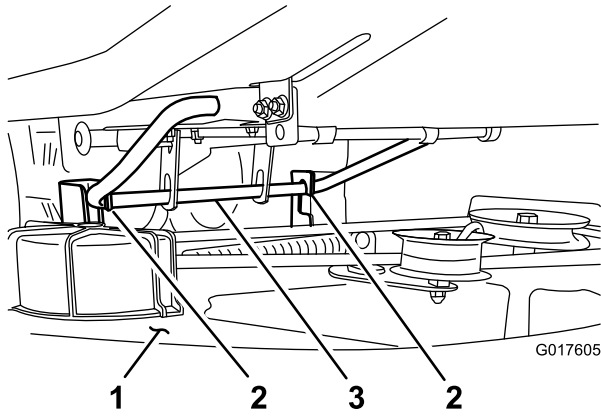

Figure 35
- Lift the mower deck and the hanger brackets clear of the rear lift rod, and lower the mower carefully to the ground (Figure 35).
- Lift the rear of the mower deck, and guide the hanger brackets over the rear lift rod (Figure 35).